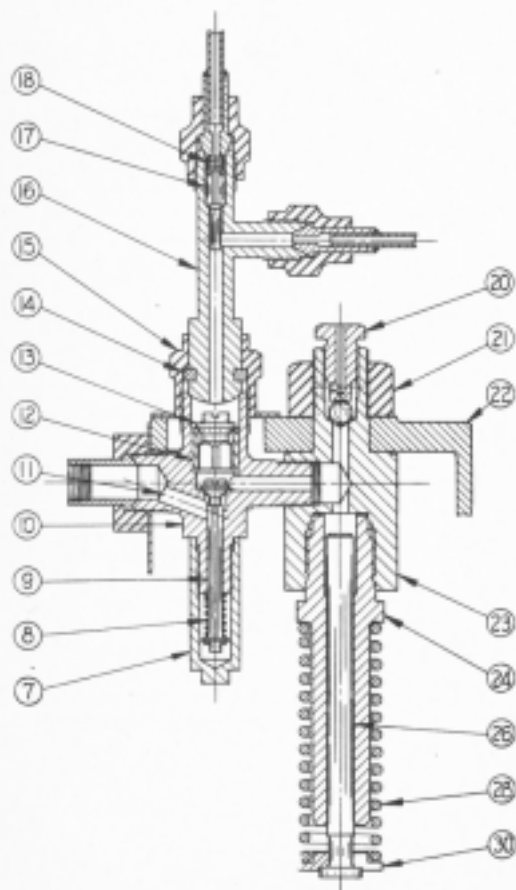

FIG. O-2
The two identical pump units are shown in enlarged detail in Fig. O-2. Each consists of head (23), plunger (26) and barrel (24) and valve cage (10). The heads are mounted in housing cover (22) and are retained by nuts (21). The pump barrels and valve cages are screwed into the heads. Straight threads are used on the pump barrels, copper gaskets making the seal, and taper pipe threads are used for the cages. The priming pump unit is also mounted in one of the pump heads, the corresponding hole in the other head being closed with a plug. Discharge tee (16) is used on one of the pumps only and the vertical outlet connected to the accumulator and the horizontal outlet to the discharge of the other pump.
Suction valves (9) and discharge valves (13) are located in valve cages (10), one to each pump unit, as previously mentioned. (See Fig. O-2.) Fuel under a slight head from the transfer pump and day tank unit is supplied through port (11). The suction valve is guided and seated directly in the cage, and valve spring (8) is enclosed by bonnet (7), which prevents external leakage. A flat along one side of the valve stem permits displacement of the fuel in the bonnet space as the valve stem moves in and out. The discharge valve is fluted and is guided in a hardened steel seat (12), which is pressed into the valve cage. The valve lift is limited by the lower end of discharge fitting (16).
Referring to Fig. O-2, both suction and discharge valves are accessible through the discharge opening after removal of discharge fitting (16), which is secured to the valve cage by retaining nut (15) and split ring (14). Valve leakage as evidenced by low or erratic fuel pressure can usually be stopped by lapping the seats lightly with fine grinding compound, but if this does not correct the difficulty the entire valve and cage assembly should be replaced. Be sure that all traces of grinding compound are thoroughly washed off at completion of grinding operation. If the lower end of the discharge fitting above discharge valve (13)